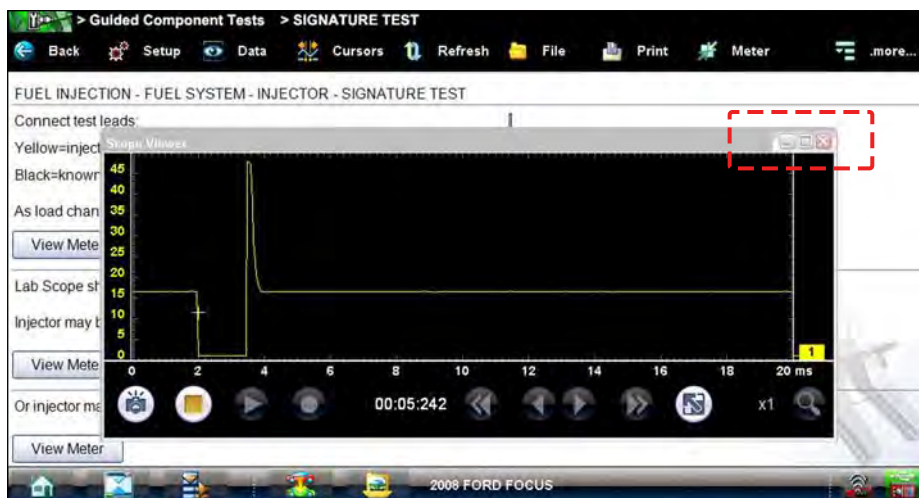

Figure 6-7 Sample meter view in a separate window
2. Select the **Meter** icon a second time and the meter opens as a separate window (Figure 6-7).